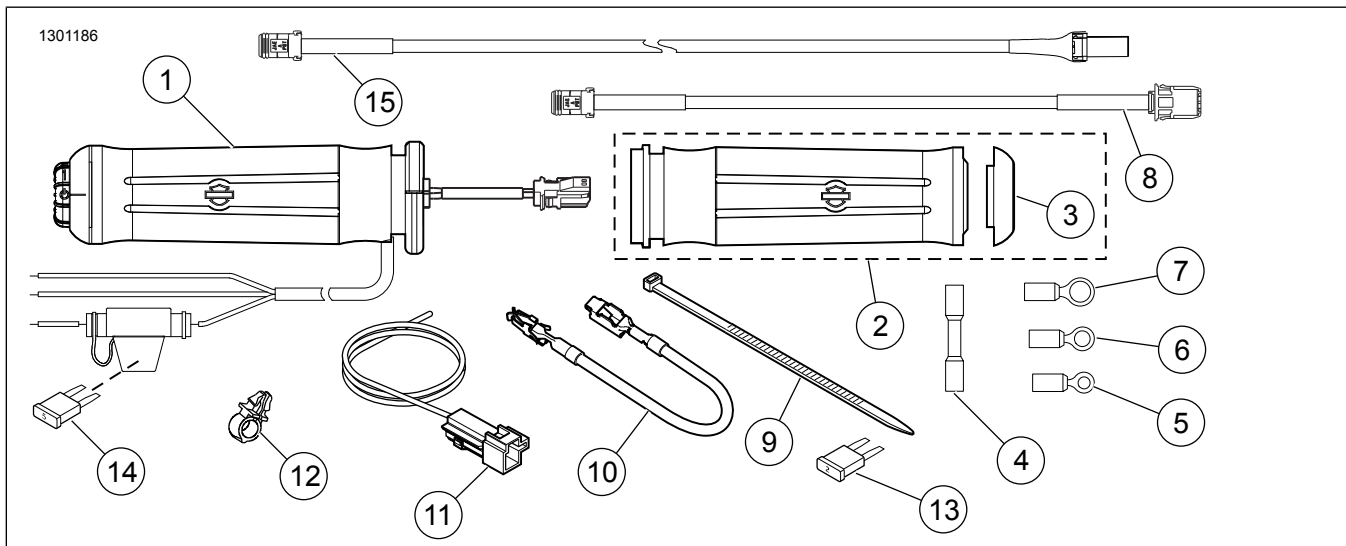

Figure 8. Service Parts, Heated Hand Grip Kits
2. See Figure 8. Use cable straps (9) from the kit to fasten the hand grip wiring to wire harnesses along the vehicle frame. **2014-Later Models:** Continue after Step 15.